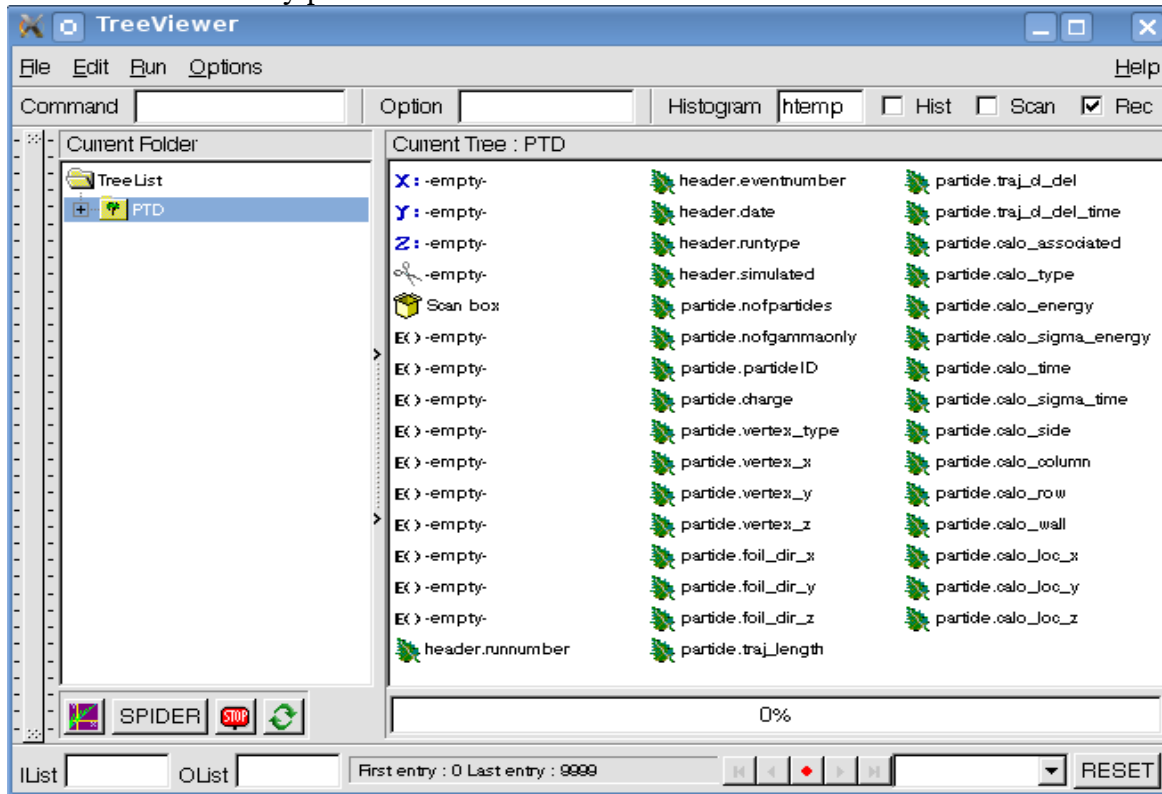

Figure 1: Screenshot of TTree with all variables available after conversion of the PTD datamodel.
The variables after conversion are shown in Figure 1. The event header data storage is quite pointless at the moment but will become more relevant. These are the variables starting with 'header'.
The variable 'calo.associated' is a switch, a standard template library vector object containing integer values to say: associated yes (1) or no (0) or no information in PTD (-1). The corresponding calorimeter data is then stored in the 'calo_...' variables as listed in Figure 1. The calo_type is the geometry id integer number which might not be ideal in the long run but working with numbers in a tree is easier than with strings for applying cuts. Here one can select 1302 for the main calorimeter (is the geometry id number for the calorimeter block geometry box), 1232 for the xcalo and 1252 for the gamma veto. The energy and time variables are clear and the location variables (side, column, row, wall) characterise the individual calorimeter location which has the hit. The